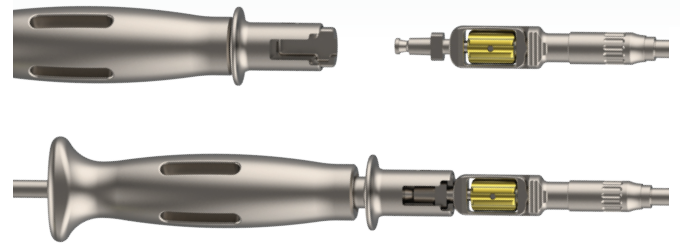

Figure 6a
- **Option A.** Remove the inline handle (330H0009) and connect the slap hammer directly to the inserter (Figure 6a).